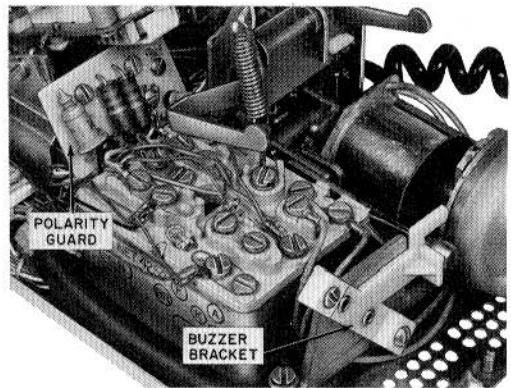

Fig. 12—819040528 (P-90D052) Guard Assembly, Installed
2.33 Mount the 819040528 (P-90D052) guard assembly to the right dial mounting bracket as shown in Fig. 12.